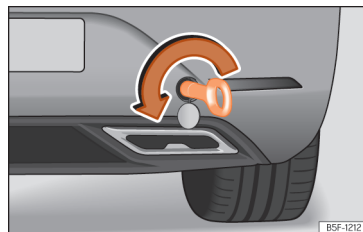

Fig. 215 Right side of the rear bumper: towline anchorage screwed in.
- Screw the towing eye in the housing by turning it to the maximum **anticlockwise** >>> Fig. 215, >>> ①. Use a suitable object that can completely and securely tighten the towing eye in its housing.